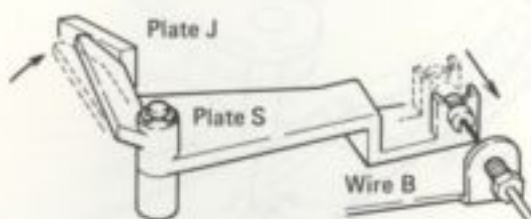

Fig. 28
5. By pressing the STOP button, plate S motion can release the repeat mode (Fig. 28).